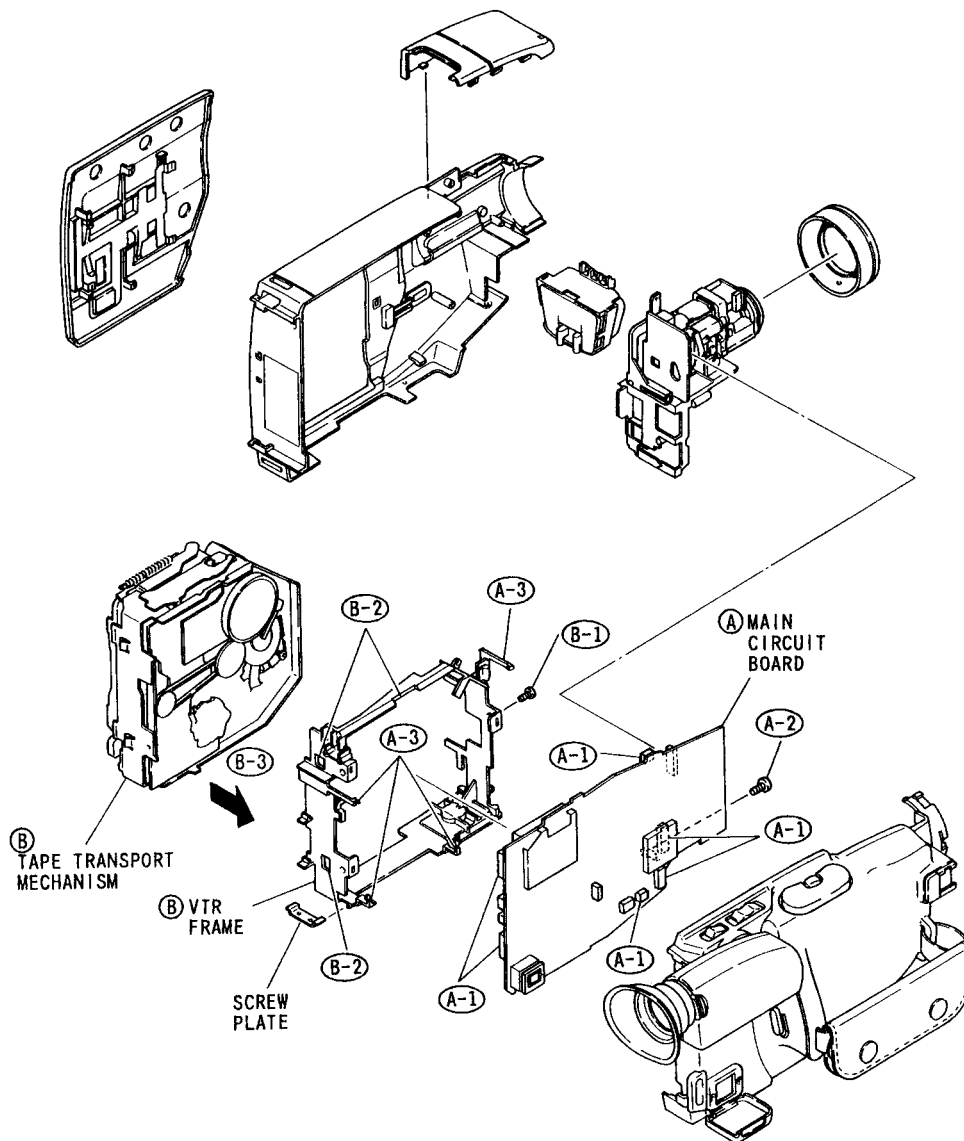

Fig. 3-5
A. Main Circuit Board (Fig. 3-5)
- 1) Disconnect two (2) connectors and four (4) flat cables.
- 2) Remove one (1) screw.
- 3) Release four (4) tabs.
B. VTR Frame and Tape Transport Mechanism (Fig. 3-5)